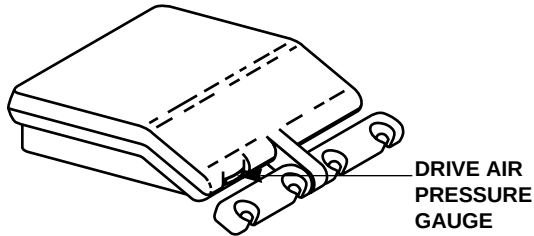

Figure 5. Drive Air Pressure Gauge
The drive air pressure gauge (see Figure 5) indicates, in psi and kg/cm², the drive air pressure to the active handpiece.
2. Locate the drive air gauge on the front of the control head (see Figure 5 on page 5).